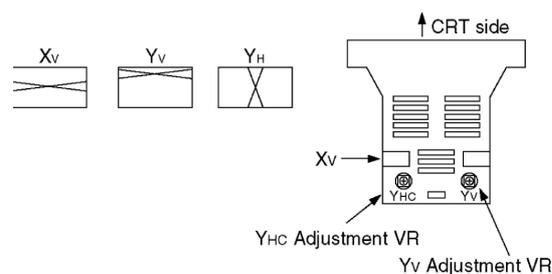

Fig. 2
b. YHC, YV, XV, Adjustment (Fig. 2)